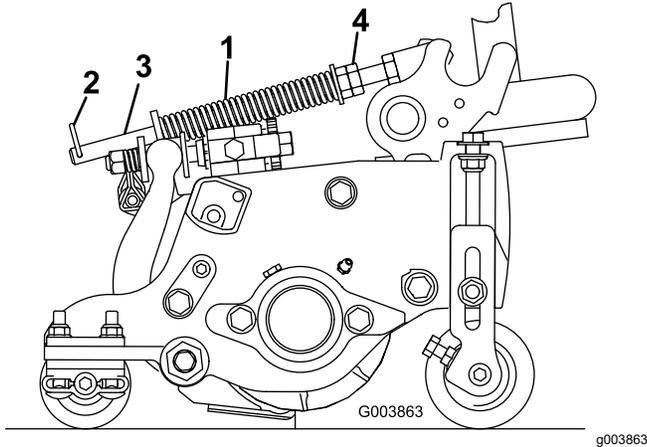

Figure 90
The turf-compensation spring transfers weight from the front to the rear roller (Figure 90). This helps to reduce a wave pattern in the turf, also known as marcelling or bobbing.
1. Make sure that the hairpin cotter is installed in the rear hole in the spring rod (Figure 90).
2. Tighten the hex nuts on the front end of the spring rod until the compressed length of the spring is 15.9 cm (6.25 inches) for 7-inch cutting units (Figure 90).